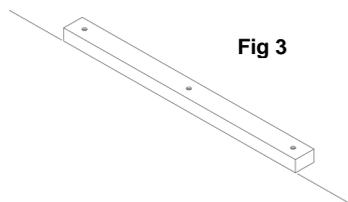

Fig 3
8. Position the floor braces so that its front face is on the line you have drawn on the floor and mark through the holes with a bradawl Fig 3 (Fig 4 shows the suggested positions along the length of the bath panel looking from the rear when bath panel is fully assembled)